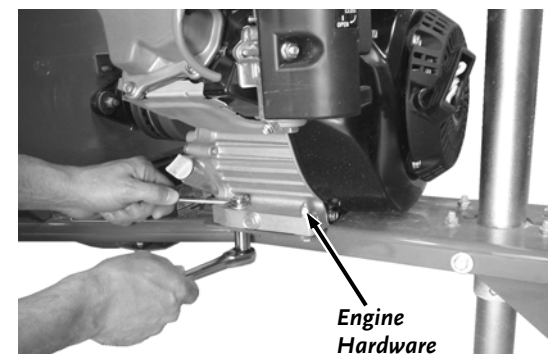

Figure 50
5. Remove four Engine Bolts, Flat Washers and Locknuts with two 1/2" Wrenches (**Figure 50**).